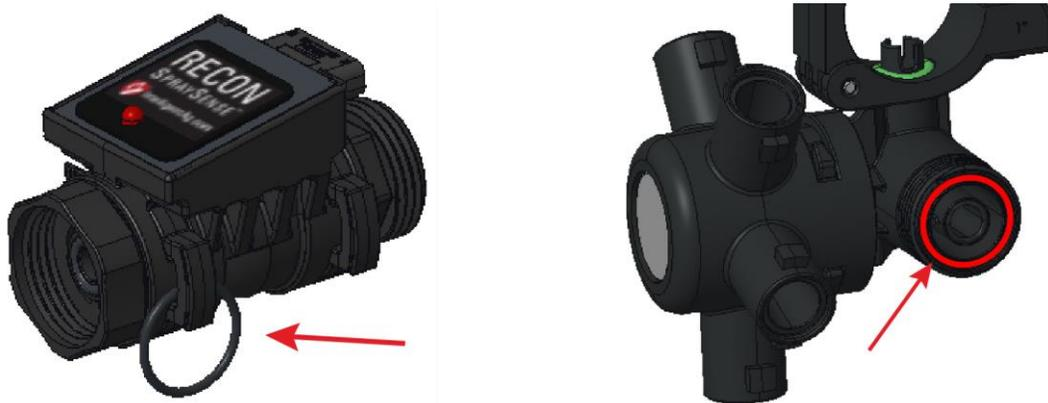

Figure 3: Installing the nozzle body o-ring
- Use a pliers to remove the retaining clip holding the adapter to the sensor. Remove the .88" diameter o-ring and install it in the external o-ring gland of the nozzle body (shown in Figure 3).